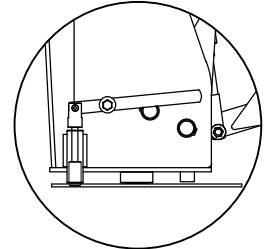

Figure 2
- Step 3. Release the swing release lever allowing the swing release pin to lock into the base plate. (Figure 2)
- Step 4. Verify that the latch is properly engaged and that the gate cannot rotate. (Figure 2)